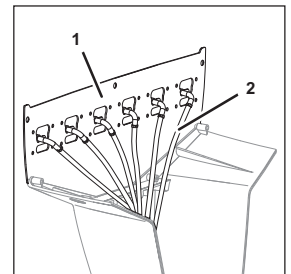

Fig. 53
1. Remove the syrup tubes (Fig. 53/2) from the dispensing valve support (Fig. 53/1).
7. Position the syrup tubes (Fig. 53/2) within the dispensing valve support (Fig. 53/1).